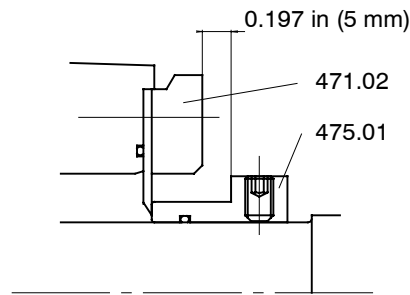

Fig. 19
- 8 When the exchange unit is fully assembled, place the thrust ring (475.01) at the right position on the shaft and fasten the grub screws (904.01). The measure between the face of the cover plate for seal and the shoulder of the thrust ring must be 0.197 in (5 mm). Fig. 19.